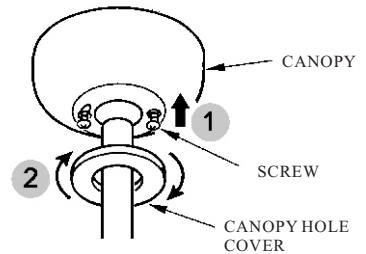

FIG.9
5. Retighten the two screws and place the canopy hole cover and twist the cover to tighter up (see Fig.9)